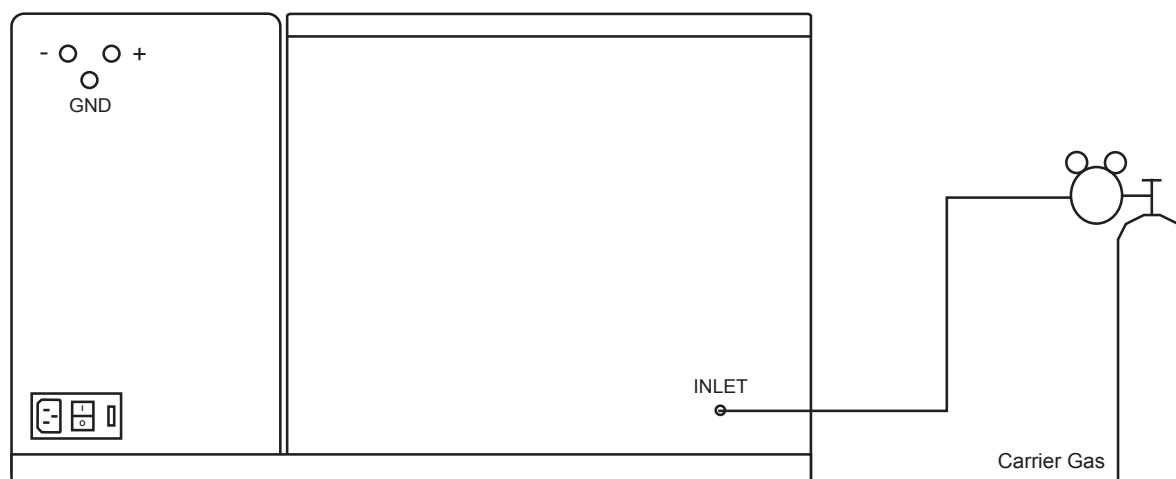

Figure 3-2
1. A 1/8" o.d. stainless steel tube extends from the back of the G.C. (Figure 3-2). This is the CARRIER GAS INLET.